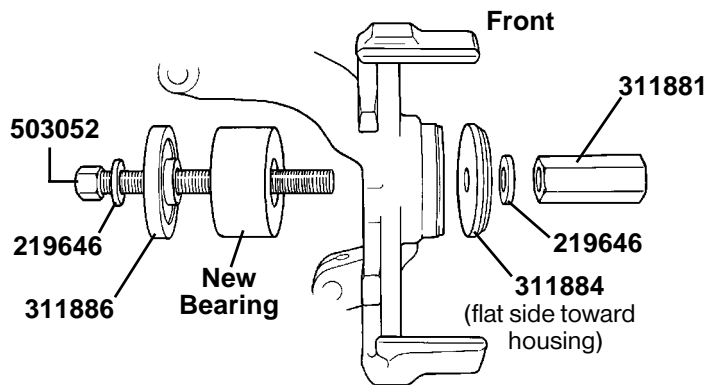

Figure 3
3. Lightly lubricate the new bearing, and position it for installation with the tool components assembled as shown in Figure 3. **Important: Assemble the adapter with the flat side toward the housing, and the small diameter pilot on the side away from the housing.**